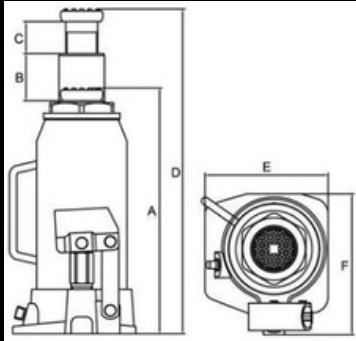

Figure 7.3
3. Attach the bottom of the turnbuckles on the lateral cables to the baseplate. (see Figure 7.3).